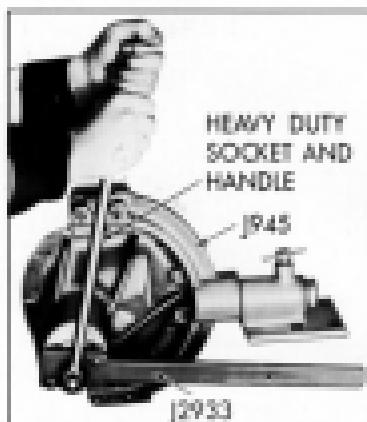

Fig. 149. Tightening Compressor Flange Nut.
the compressor flange and install nut after filling shaft and washer face of nut. Take care not to use an excess of Petroleum Sealer, as it will damage the front piston bearing. (Fig. 149)
- flange is felt to contact spacer. This will take up most of the end play in the bearing. (See Fig. 149)